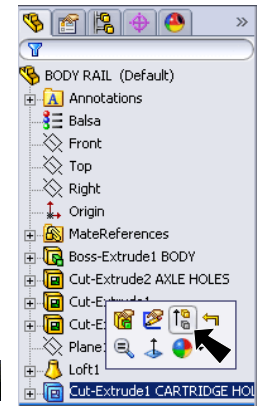

Fig. 69
Step 2. Click the suppressed **Cut-Extrude1 CARTRIDGE HOLE** and click **Unsuppress**  in the menu, **Fig. 69**.